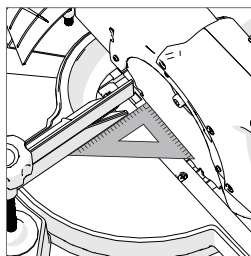

Fig. 19
- Place a Set Square on the table with one short edge against the Fence and the other short edge against the Blade (avoiding the TCT tips). (**Fig. 19**)